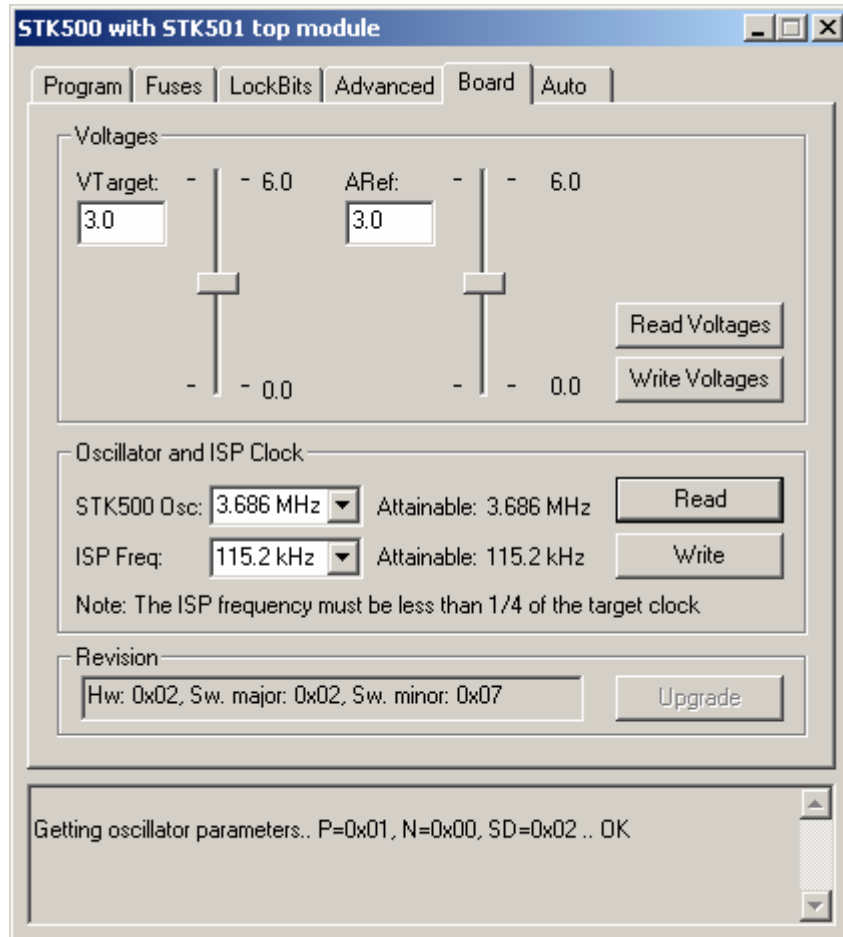

Figure 7. Setting clock frequency
4. Start AVR Studio. From the Tools menu, select Program AVR and Connect.... Select 'STK500 or AVRISP' as platform and then press Connect.... Verify that a window named STK500 appears. Open the Board tab (see Figure 7 below). Adjust the VTarget voltage and ARef voltage to 3 Volts. Press the Write Voltages button. Close the STK500 window.
It is important that ISP frequency should be set to 115.8 kHz as shown in Figure 7.